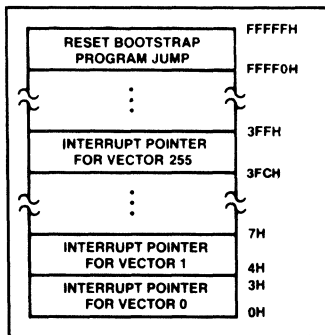

FIGURE 8. 80C286 REAL ADDRESS MODE INITIALLY RESERVED MEMORY LOCATIONS
The 80C286 reserves two fixed areas of memory in real address mode (see Figure 8), system initialization area and interrupt table area. Locations from addresses FFFF0(H) through FFFF(H) are reserved for system initialization. Initial execution begins at location FFFF0(H). Locations 00000(H) through 003FF(H) are reserved for interrupt vectors.